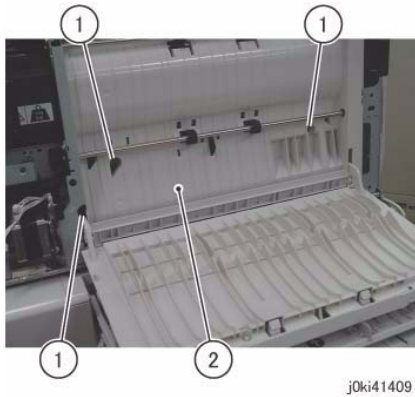

Figure 4 Remove the Duplex Assy
7. Remove the Duplex Assembly. (Figure 4)